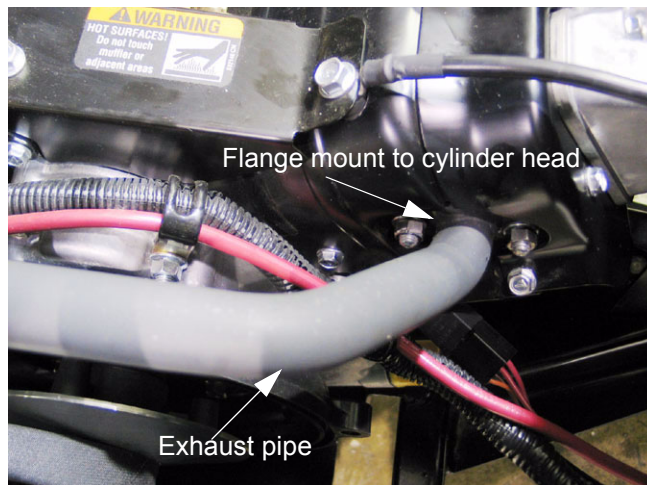

Figure 5.16
- 5.16. Disconnect the front flange of the exhaust pipe from the cylinder head using a 12 mm wrench. See Figure 5.16.